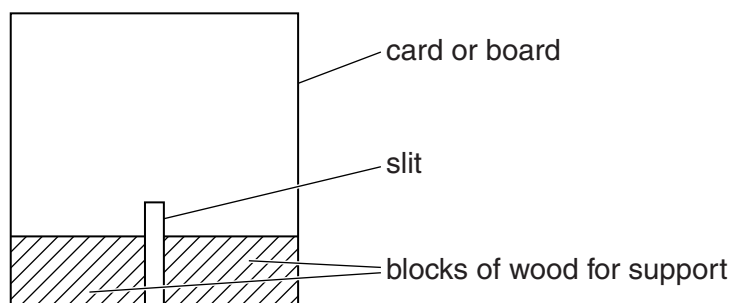

Fig. 2.1
2. If a ray box with slit is not available, then a slit may be constructed as described below and a source of light may be placed behind the slit. The slit should be formed using a 20 cm square piece of card or board. A slit should be made in the card, passing vertically upwards from the centre of the base of the card. The height of the slit should be slightly greater than the height of the transparent block and its width should be approximately 1 mm. A piece of tracing paper should be taped across the back of the slit. The slit should be supported so that it can stand perpendicular to the bench. This should be done by attaching wooden blocks to the base of the slit. The slit should not be obscured so two blocks should be used, one each side of the slit. This is shown in Fig. 2.1.